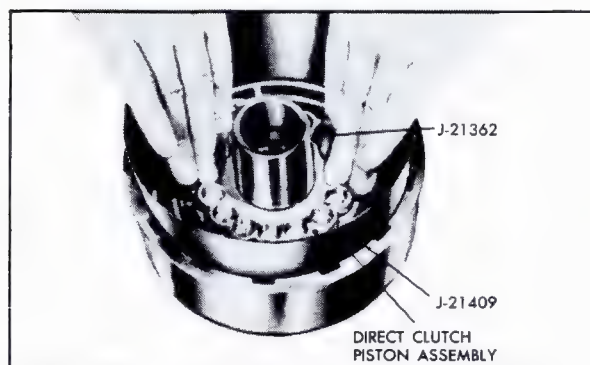

Fig. 7-199 Installing Direct Clutch Piston
c. Place Forward and Direct Clutch Inner Seal Protector, J-21362, over direct clutch hub. Install clutch piston inside Forward and Direct Clutch Piston Installer, J-21409, insert assembly in direct clutch housing, Fig. 7-199, and install clutch piston by rotating it slightly, in a clockwise direction.